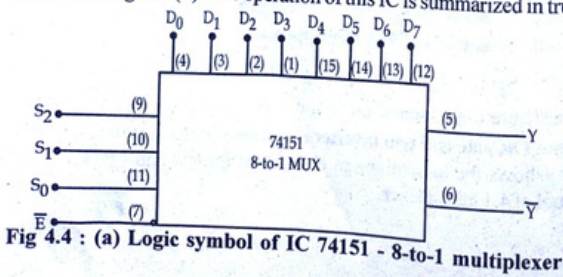

Fig 4.4 : (a) Logic symbol of IC 74151 - 8-to-1 multiplexer
IC 74151 is an 8-to-1 multiplexer with eight data inputs ($D_0 - D_7$), three select input lines ($S_2 - S_0$) and a single output (Y). It also has an enable input \bar{E} and provides both normal and inverted outputs (i.e. Y and \bar{Y}). Since $2^3 = 8$, three bits are required to select any one of the eight data bits. When $\bar{E} = 0$, the select inputs $S_2S_1S_0$ will select one of the data input to pass through the output Y . When $\bar{E} = 1$, the multiplexer is disabled. The logic symbol of IC 74151 is shown in fig. 4.4 (a) and its logic diagram is shown in Fig. 4.4 (b). The operation of this IC is summarized in truth Table.